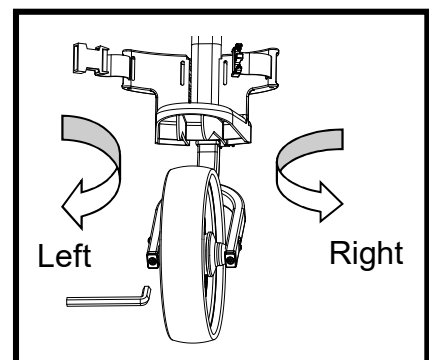

Fig .3
Assemble front wheel sets onto the mainly frame by 2pcs M6*38mm screws and nuts as Fig.3.
3.If the cart veers to the right, face the front wheel of the cart and use the Allen wrench provided to screw the left bolt counterclockwise or the right bolt clockwise until the front wheel is centered between the front fork.(Fig.3)